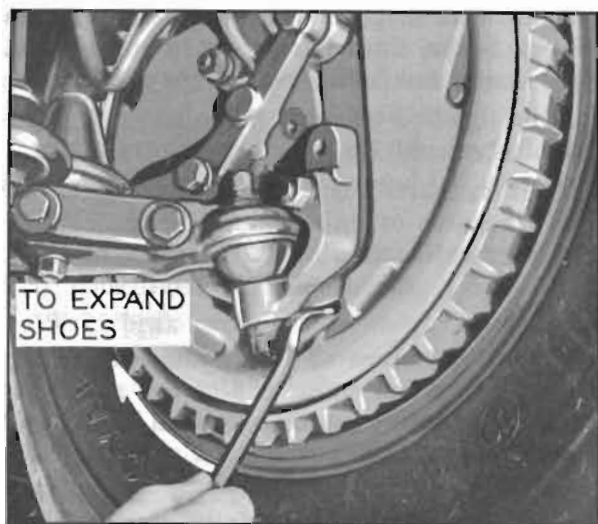

Figure 9-8—Expanding Brake Shoes
1. Remove adjusting hole covers from brake backing plates. Using suitable tool to turn brake adjusting screw, expand brake shoes at each wheel until the wheel can just be turned by hand. Moving end of tool in hand upward expands the shoes. See figure 9-8. The drag should be equal at all wheels.
(a) Using suitable tool (fig. 9-8) turn brake adjusting screw to expand brake shoes until drum can just be turned with a long bar, giving a drag equivalent to a two-hand drag with wheel installed.